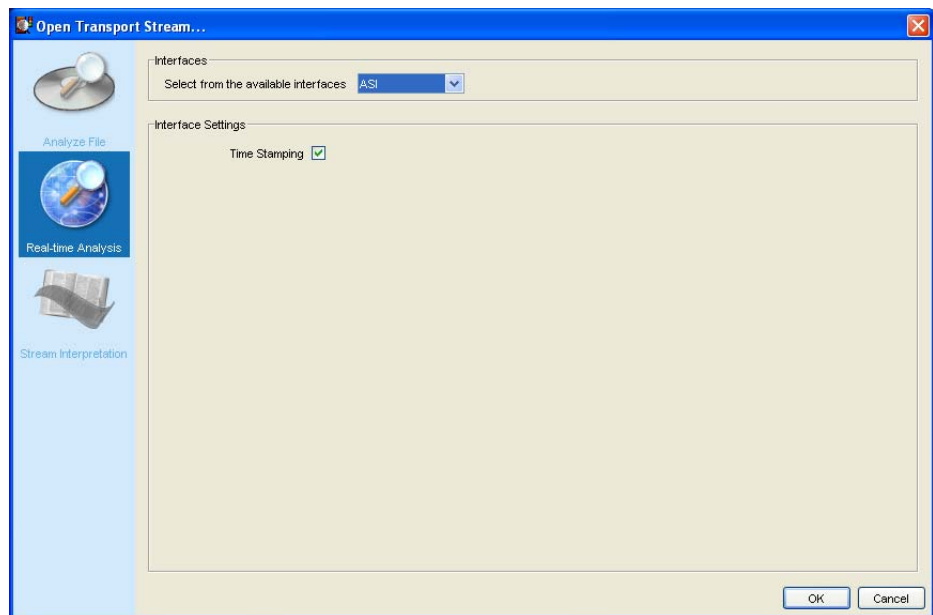

Figure 2–6: Real Time Analysis display in the Open Transport Stream window
20. After a few seconds, the TS Compliance Analyzer window opens with the analysis results of the ASI transport stream (see Figure 2–7).